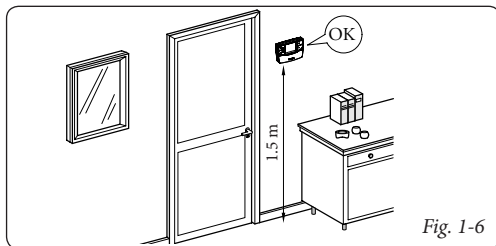

Fig. 1-6
- 6) Separate the fixing template from the body of the CAR^{V2} using a screwdriver as a lever in the relative recess (Fig. 1-8). Install the CAR^{V2} away from heat sources and in a suitable position to detect the room temperature correctly (Fig. 1-6 and 1-7).